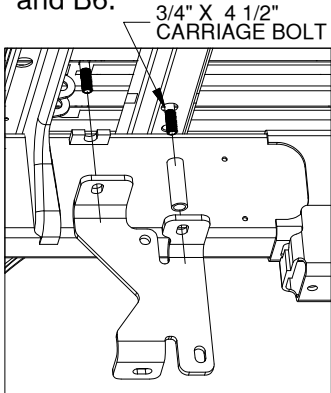

FIGURE B5: View looking up at the inside of driver side frame.
3. **Install the rear tube spacers.** Locate the two tube spacers. Each spacer will install onto the 1/2" X 4 1/2" carriage bolts and slide up into the crossmember where the 7/8" hole was drilled. To install each rear bracket, hold the tube spacer in place and position each rear frame bracket as described in "Check the hole locations" step in the last section, see figures B5 and B6.